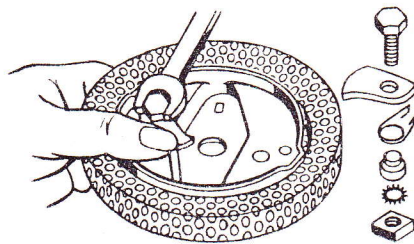

Fig. 1
4. Remove first pawl with care, **after** unfastening spring (Fig. 1).